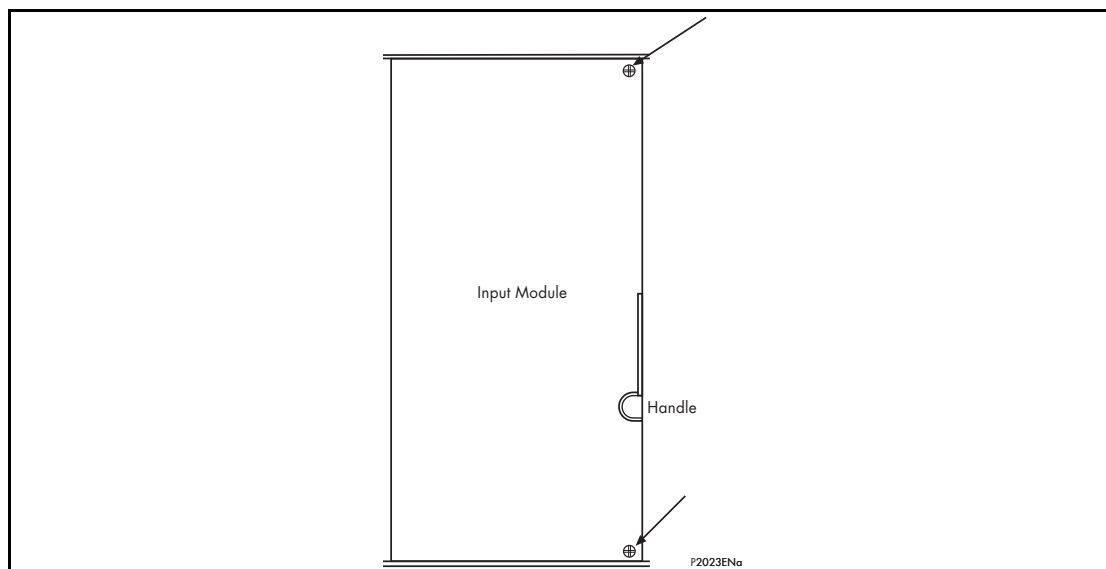

Figure 6: Location of securing screws for input module
1. The module is secured in the relay case by two screws on its right-hand side, accessible from the front of the relay, as shown in Figure 6. Remove these screws carefully as they are not captive in the front plate of the module.